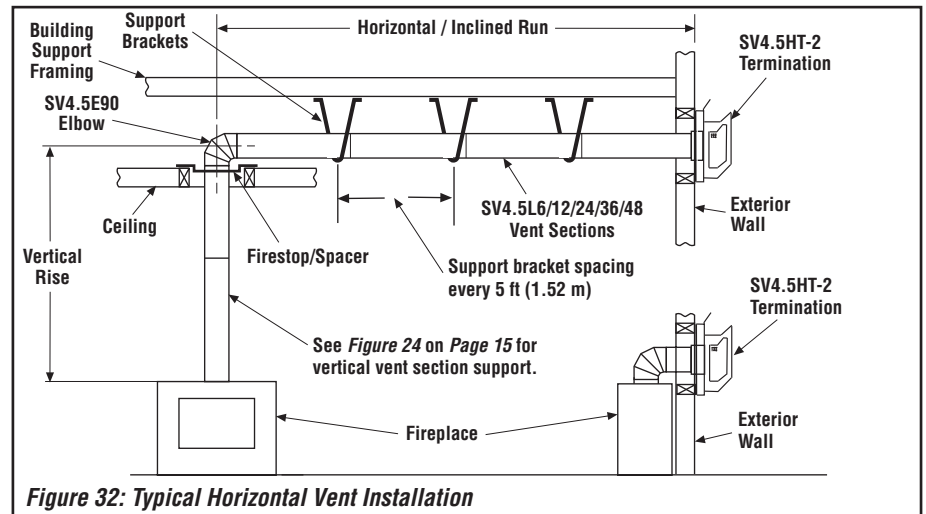

Figure 32: Typical Horizontal Vent Installation
Figure 32, and Figures 35 to 41 on Pages 21 to 23 and their associated Horizontal Vent Table illustrate the various horizontal venting configurations that are possible for use with these appliances. **Secure Vent®** pipe applications are shown in these figures; **Secure Flex®** pipe may also be used. A Horizontal Vent Table summarizes each system's minimum and maximum vertical and horizontal length values that can be used to design and install the vent components in a variety of applications. Both of these horizontal vent systems terminate through an outside wall. Building Codes limit or prohibit terminating in specific areas. Refer to **Figure 7 on Page 7** for location guidelines.
I. Continue installation of horizontal/ inclined sections—Continue with the installation of the straight vent sections in horizontal/inclined run as described in **Step E**. Install support straps every 5 ft. (1.52 m) along horizontal/inclined vent runs using conventional plumber's tape. See **Figure 32**. **It is very important that the horizontal/ inclined run be maintained in a straight (no dips), slightly elevated plane. The recommended incline is approximately 1/4 in. per foot (20 mm per meter) horizontal, in a direction away from the fireplace.** The rise per foot run ratios that are smaller are acceptable all the way down to at or near level. Use a carpenter's level to measure from a constant surface and adjust the support straps as necessary.